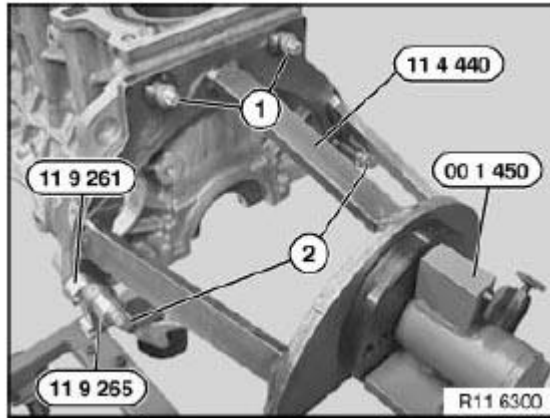

Fig. 32: Identifying Engine Block Steel Bolts And Special Tools
Bolt engine or engine block with steel bolts (1) and aluminum bolts (2) to special tool 11 4 440. See **Fig. 32.**
To release central bolt, bolt on special tools 11 9 261 and 11 9 265 as well. See **Fig. 32**